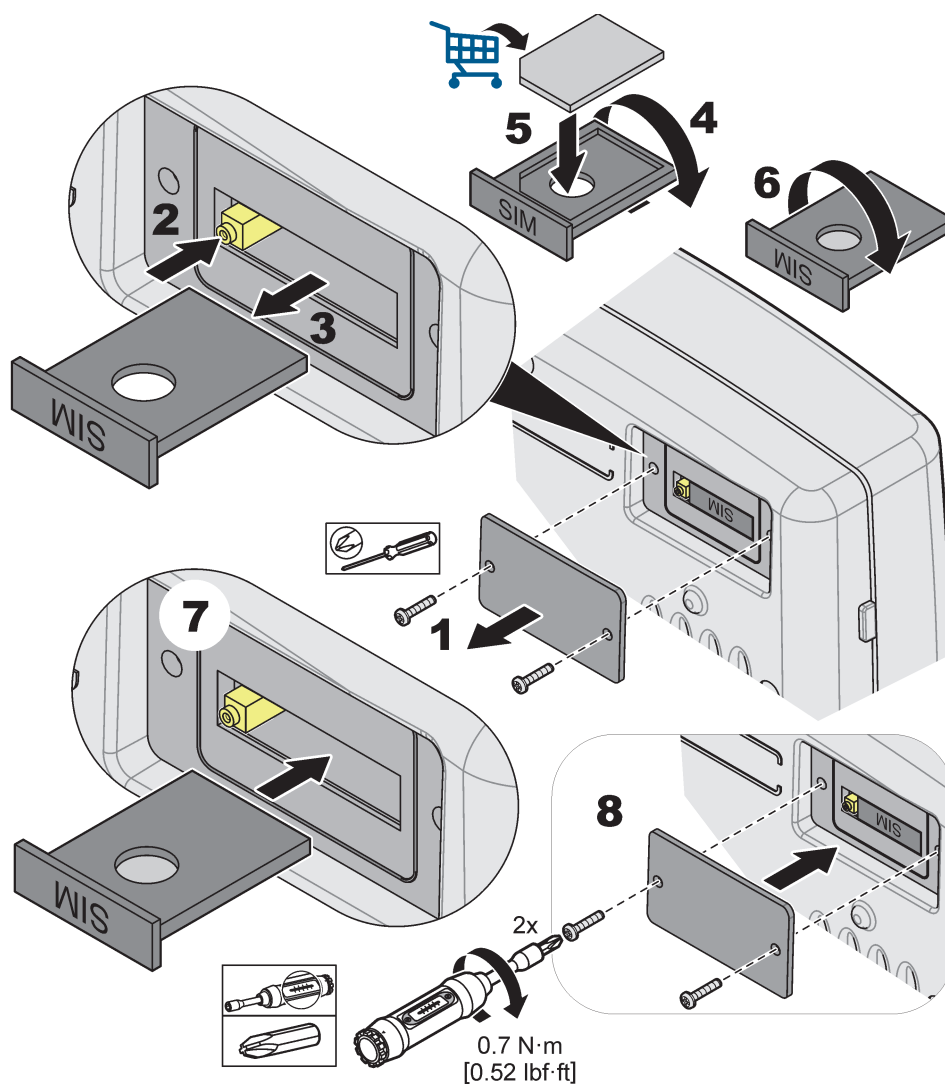

Figure 34 Insert the SIM card
3. Remove the SIM card cover from the back side of the display module (Figure 34).